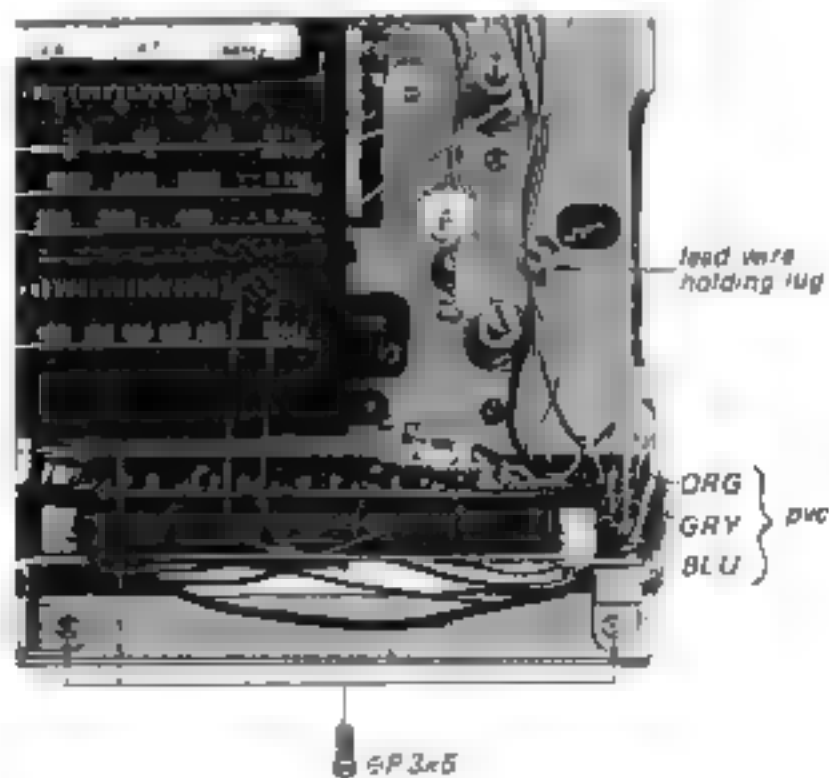

Fig. 2-12
- 4 Remove the three screws shown in Fig. 2-12.
- 7 Slide off the CP/IF circuit board in the direction shown by the arrow in Fig. 2-12